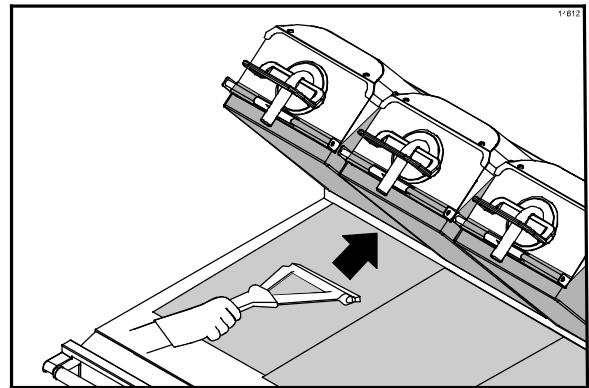

Figure 28
1. Squeegee the lower release sheet from front to back. (See Figure 28.)